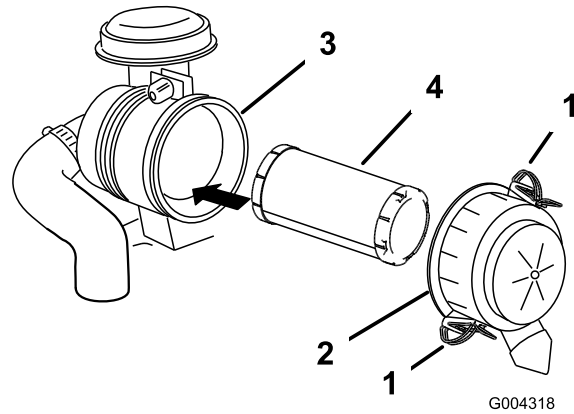

Figure 32
- Gently slide the air filter out of the air cleaner body (Figure 32). Avoid knocking the filter into the side of the body.
- Release the latches on the air cleaner and pull the air cleaner cover off of the air cleaner body (Figure 32).
- Carefully slide the air filter into the body (Figure 32).
- Install the air cleaner cover with the side indicated as **UP** facing up and secure the latches (Figure 32).